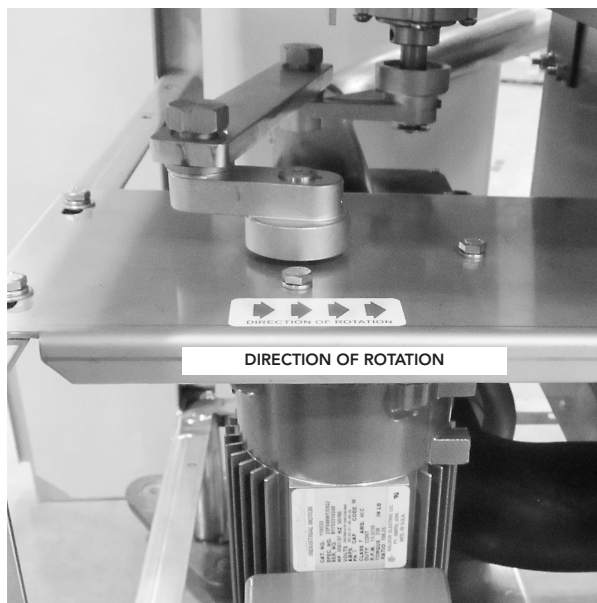

Fig. 29
2. Fig. 29 shows the drive motor rotation label on the drive plate.